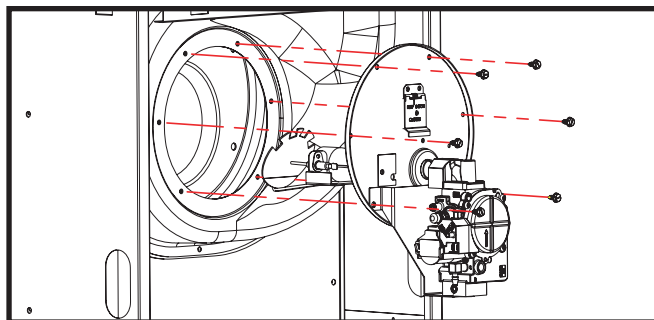

Figure 1. MG1E Burner Assembly Removal
3. Remove burner assembly to access ignitor (Figure 1).